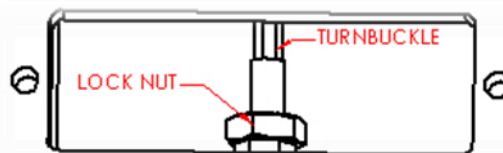

Figure 2
1.2 Adjusting the cable tension. All rotations are given looking from the turnbuckle to the lock nut. Using the wrench, first loosen the lock nut (Figure 2) ¼ turn with the large end of the wrench by turning counter clockwise.
1.3 if the table drifts down, with the small end of the wrench loosen the turnbuckle (Figure 2) ¼ turn (clockwise). Check the table to see if the downward drift is still present. If so, continue releasing the turnbuckle ¼ turn at a time until the drift is gone. Tighten the lock nut (clockwise) and replace the plate, gasket, and wrench.
1.4 if the handle does not engage the gas spring, with the small end of the wrench loosen the turnbuckle (Figure 2) ¼ turn (counter-clockwise). Check the table to see if the handle engages the gas spring. If not, continue rotating the turnbuckle ¼ turn at a time until the handle engages the gas spring. Tighten the lock nut (clockwise) and replace the plate, gasket, and wrench.